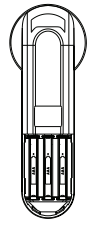

Figure 2
3. Place 3 new batteries of the types R03 or LR03 (AAA) in the transmitter. Direction of how to place the batteries in the transmitter is shown in *Figure 2*